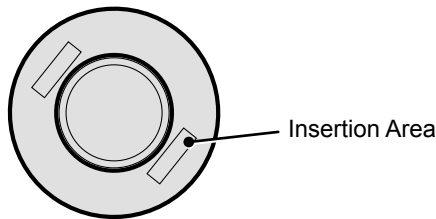

Figure 24, Plug Seal (26)
1. Remove the bypass plate (22) from the center section.
2. Remove the plug seals (26) and discard. Refer to figure 24, on page 32.
Refer to Figure 24
In order to gain access to the check plugs (24 & 25), it is necessary to remove the plug seals (26). This is accomplished by inserting a seal hook or puller into, and through, one of the insertion points (*rectangular recesses*) on the plug seal, refer to figure 24. After successfully removing the plug seals, discard and replace with new seals.